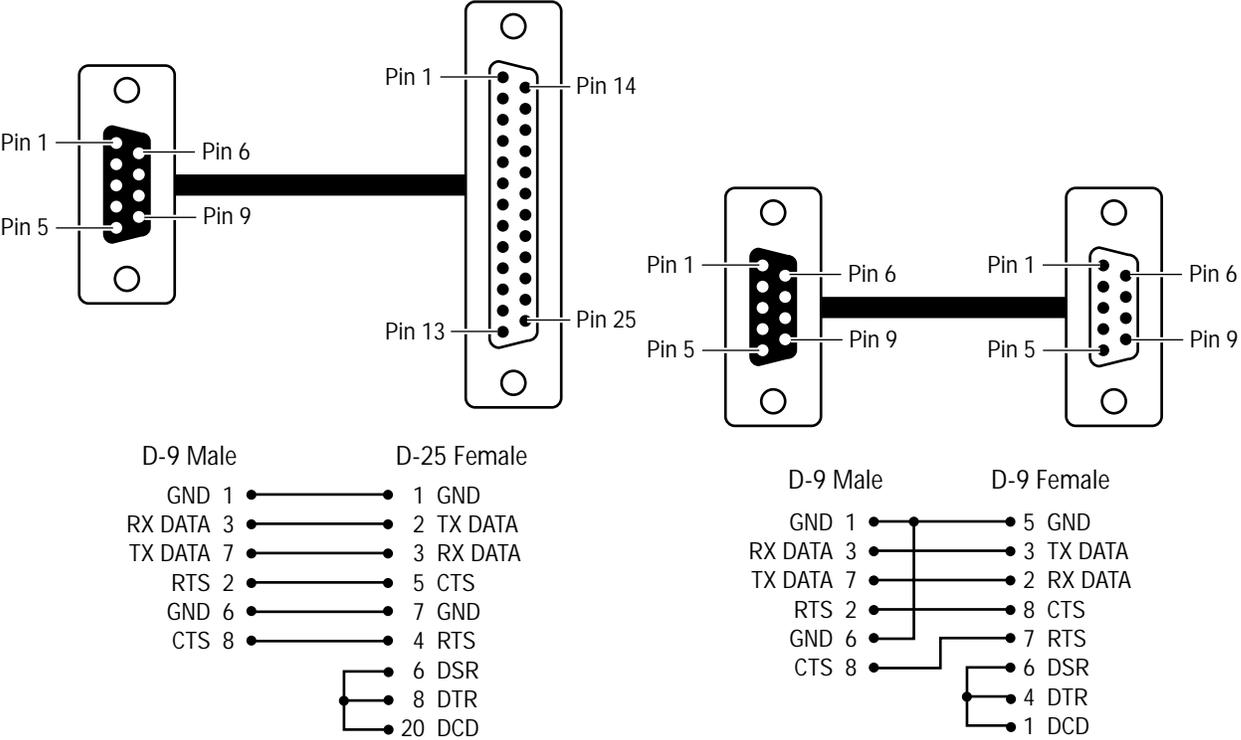

Figure 3. D Connector Pinouts
- The Compact frame pinouts have changed. Figure 3 shows the pinouts for a 9-pin D Male connector to a 25-pin D Female connector cable (Tektronix part number 174-4135-00) and the pinouts for a user built RS232 9-pin D Male connector to a 9-pin D Female connector cable.